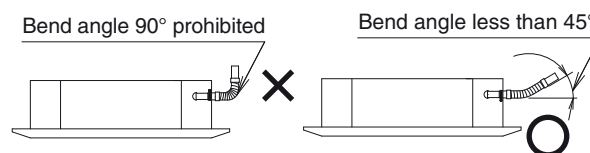

Fig. 3-9
(3) Limitations of Drain Hose Connection
- Do not bend the supplied drain hose 90° or more. Bend it less than 45°. (Fig. 3-9)